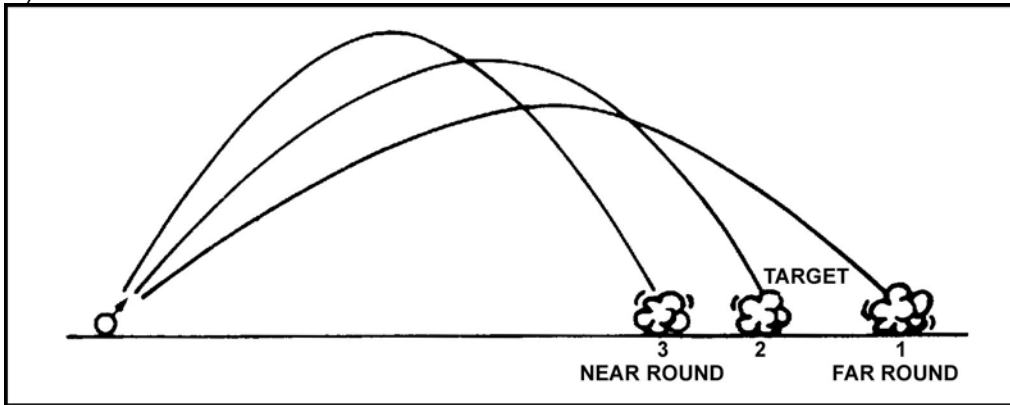

Figure 3. Determining mil length of ladder.
- a. The FO or squad leader must now determine the number of mils of elevation needed to move the barrel from the elevation to fire the far round to the elevation to fire the near round (Figure 3).